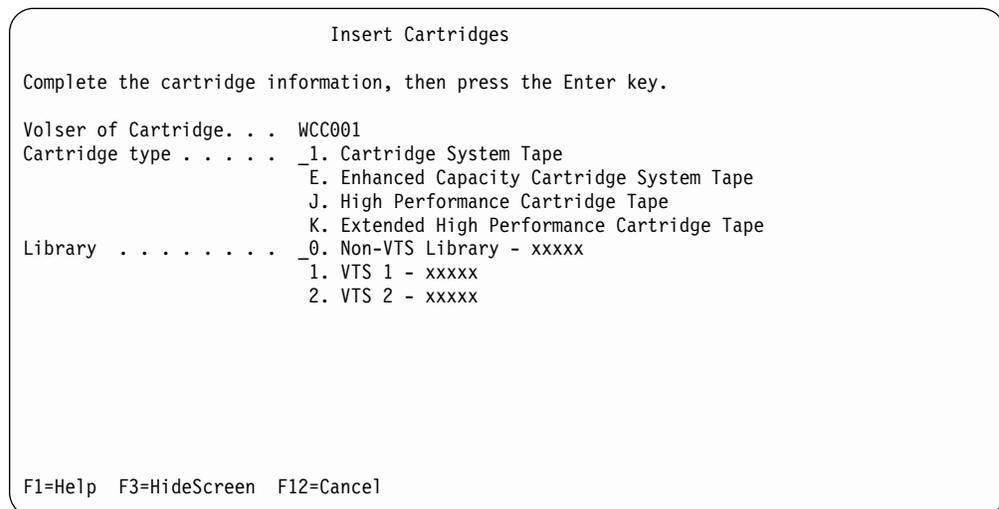

Figure 152. Manual Mode Insert Cartridges Window
- F5** Allows you to manually add volumes to the tape library. The Insert Cartridges window opens, which contains prompts for cartridge insertion (see Figure 152 on page 250).
2. In the Insert Cartridges window (Figure 152), enter the volser of the cartridge to be inserted. The cartridge volser is the set of up to six alphanumeric characters on the label attached to the end of the cartridge.